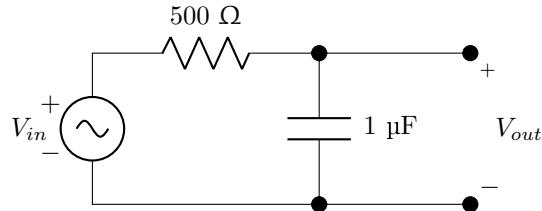

Figure 6.4: Lab # 6 Breadboard Connection
- A. Construct the circuit in Figure 6.4. Set the initial settings of the AC source to be:
F. Is the circuit in Figure 6.4 a high pass or low pass filter? How do you know?